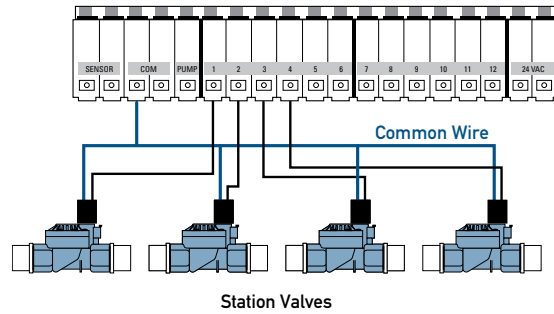

Figure 7: Connecting Sprinkler Wire
IMPORTANT: The wire can be buried in the ground. However, for greater protection, wires can be pulled through conduit and buried underground. Be careful to avoid burying the wires in locations where they could be damaged by future digging or trenching. (See Figure 7)
- Determine which valve you want to connect to which station. Using a phillips screwdriver to depress the terminal button insert each sprinkler wire, excluding the "common" wire, into a separate station terminal (grey in color) by inserting the bare wire fully into the terminal under each number. (See Figure 7)